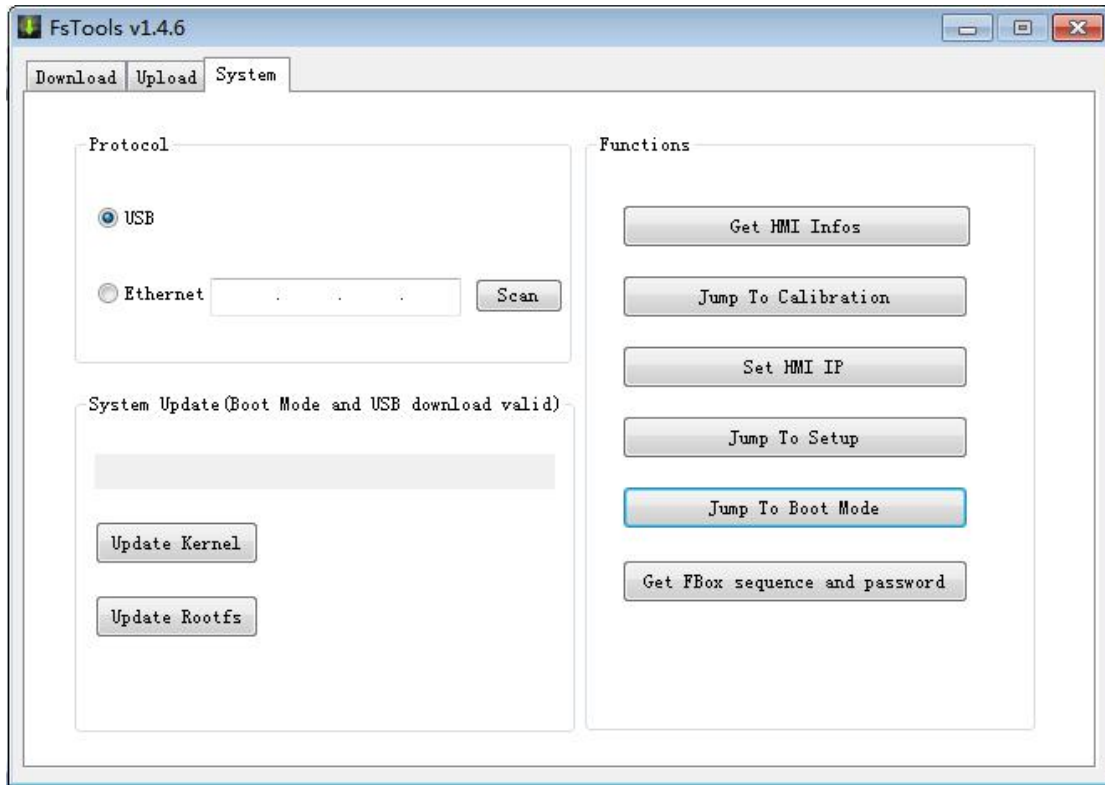

Fig. 4.5-3 "System" subtab of the "Download" dialog
- (1) Connect the FBox device to your computer via a USB cable.
- (2) After open the FStudio software and click the "Download" tool button, the download interface dialog will pop up. Select the "System" subtab, as shown in Fig. 4.5-3.